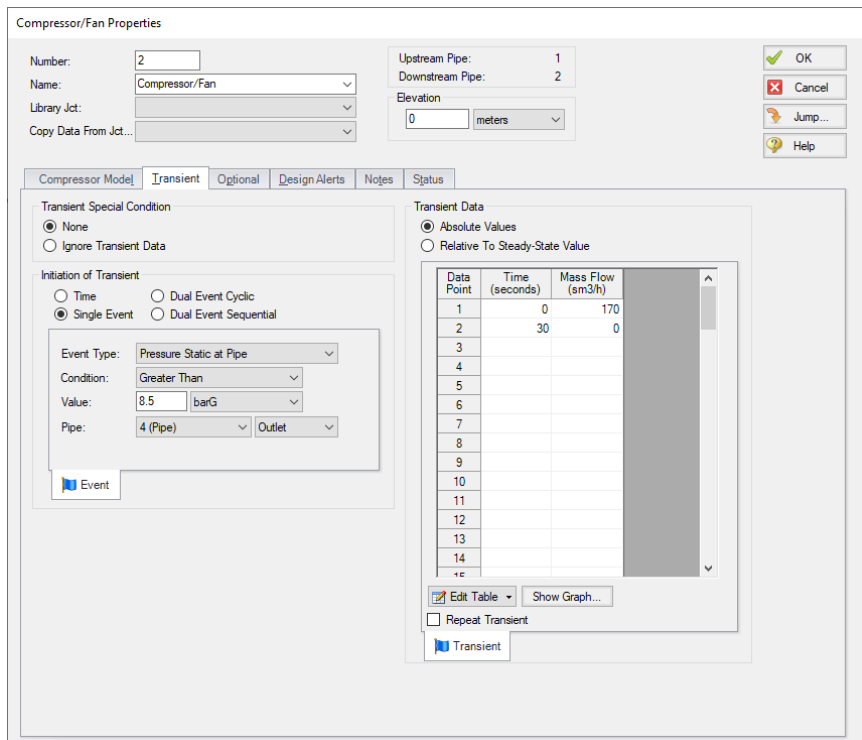

Figure 5.13 Compressor junction transient tab with flow transient defined
- **Open the Compressor Properties window** for compressor J2 and navigate to the Transient tab. Under Initiation of Transient, select Single Event and enter the Transient data as shown below in Figure 5.13.